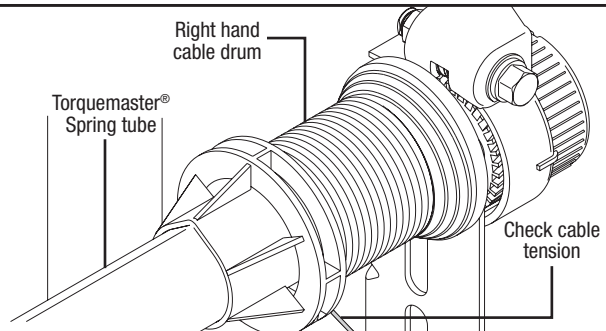

Fig. 3
**Step 3:** Verify that the spring tension has been released by pulling the counterbalance cables on the right and left hand cable drums away from the header (Fig. 3). If the spring tension has been released, the cables will be loose and the TorqueMaster® spring tube should be free to rotate in either direction.